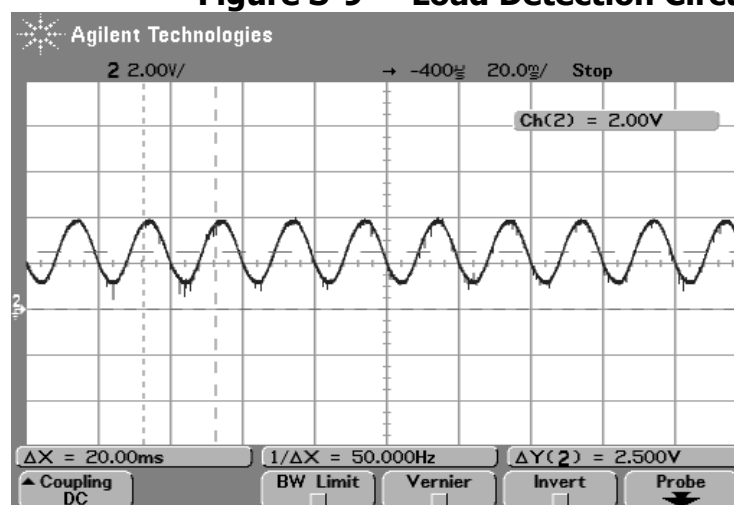

Figure W-7 Load Signal Waveform
10.3 Refer to Figure W-7. The waveform of Load.
11.7.1 Battery mode examination (please refer to Figure W-7)